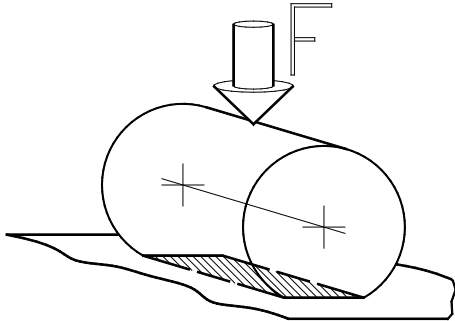

Fig. 1.6
b) A roller lying on a flat surface makes contact in a line. This is termed “**line contact**” (fig 1.6).